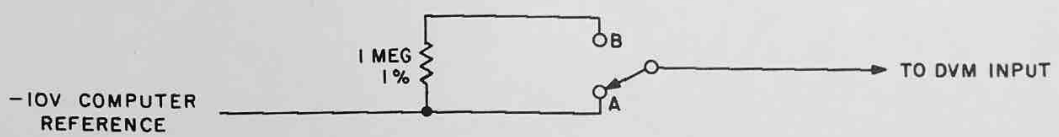

Figure 5.5. DVM Unloading Adjustment Test Setup
1. Set up the test circuit shown in Figure 5.5.